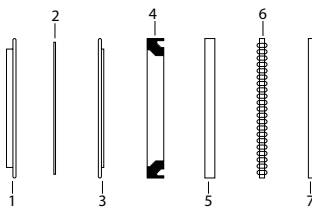

Figure 2: Figure 2
6. Place shaft (23) on a clean flat surface with output end facing up.
- a) Place on shaft, the thrust washer (14), then thrust bearing (13), then thrust washer (12).
- b) Lightly coat seal area of shaft with clean oil and place shaft seal (6) down onto shaft (23) making sure that lip on seal faces down (See *Figure 2: Figure 2* on page 10 for correct seal orientation) until it contacts thrust washer (12).
- c) Carefully install the back-up seal (5) onto the shaft (23) with the flat side up and the seal lip facing the shaft seal (6).
- d) Place the metal back-up shim (4) onto the shaft, then place the back-up ring (3) onto the shaft with the flat side against the backup shim (4).